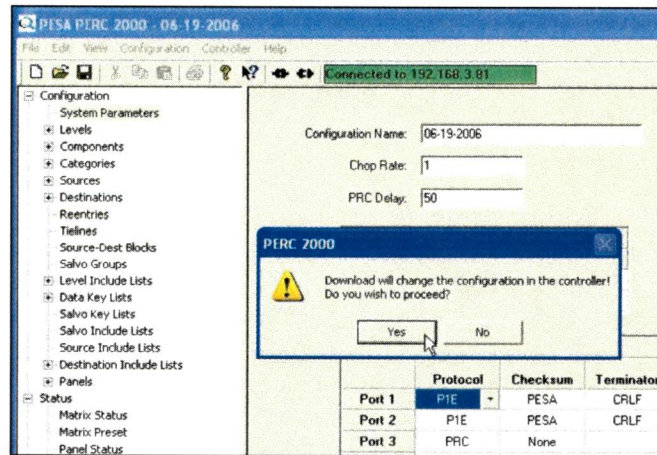

Figure 51. Caution Dialog Box
- ☐ 8. The dialog box shown in Figure 51 will appear. Click **Yes** to proceed with the configuration download.